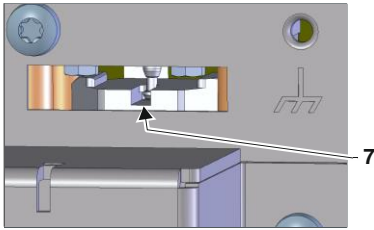

Fig. 29: Visual control of the groove alignment
- Alignment of the groove of the coupling, to allow the piston rod to extend → Fig. 29.
- Alignment of the groove of the coupling, to allow the piston rod to retract (label 7 → Fig. 29.).
- Observe correct mounting, visual control to check the engagement of the piston rod in the coupling → Fig. 29.
- Engage the switching buffer unit (19) on the side.
- Mount the switching buffer unit (19) with 2x pipe couplings (label 8) as well as 2x screws (label 9) on the base plate.